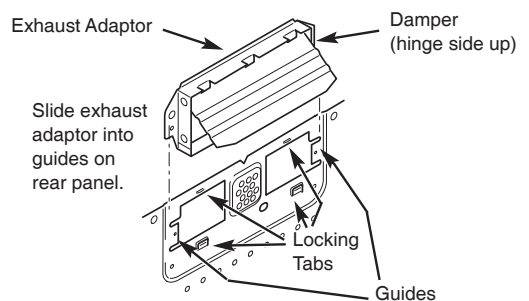

Figure 19
7. Insert the tabs on each side of the damper into the holes at the inside rear of the adaptor. Attach the exhaust adaptor to the back plate wall side. Push in securely until it is past the top locking tabs and in the lower locking tabs. Take care to assure the damper hinge is installed so that it is at the top and that the damper swings freely. See Figure 19.